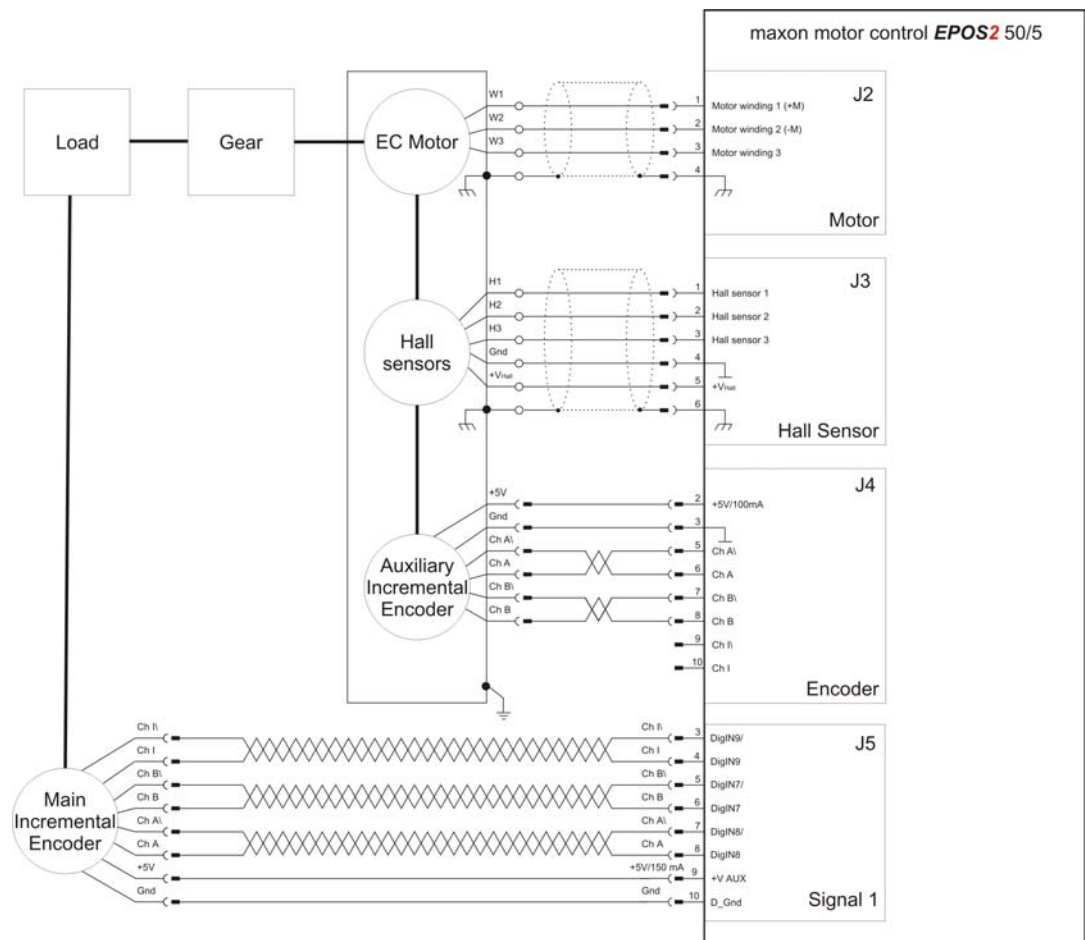

Figure 13-163 Example 2 – Wiring Diagram
- 1) Wire the system according to the wiring diagram (→Figure 13-163).